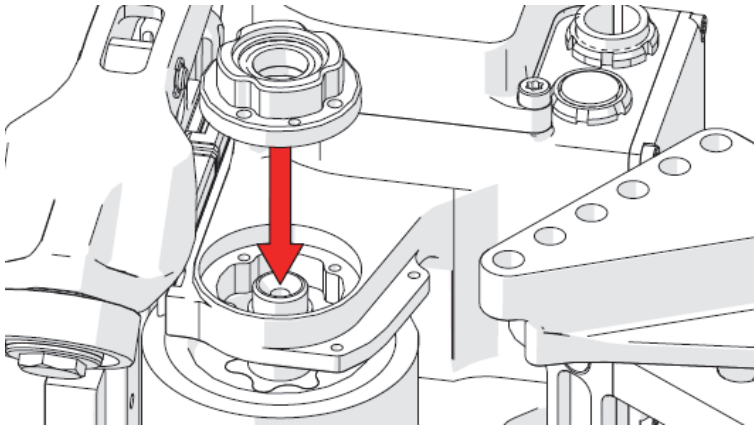

Figure 2-16 Insert the bearing housing
18. Flip the bearing housing upside down, and insert it into the hole of the axle arm (see Figure 2-16 on page 94).